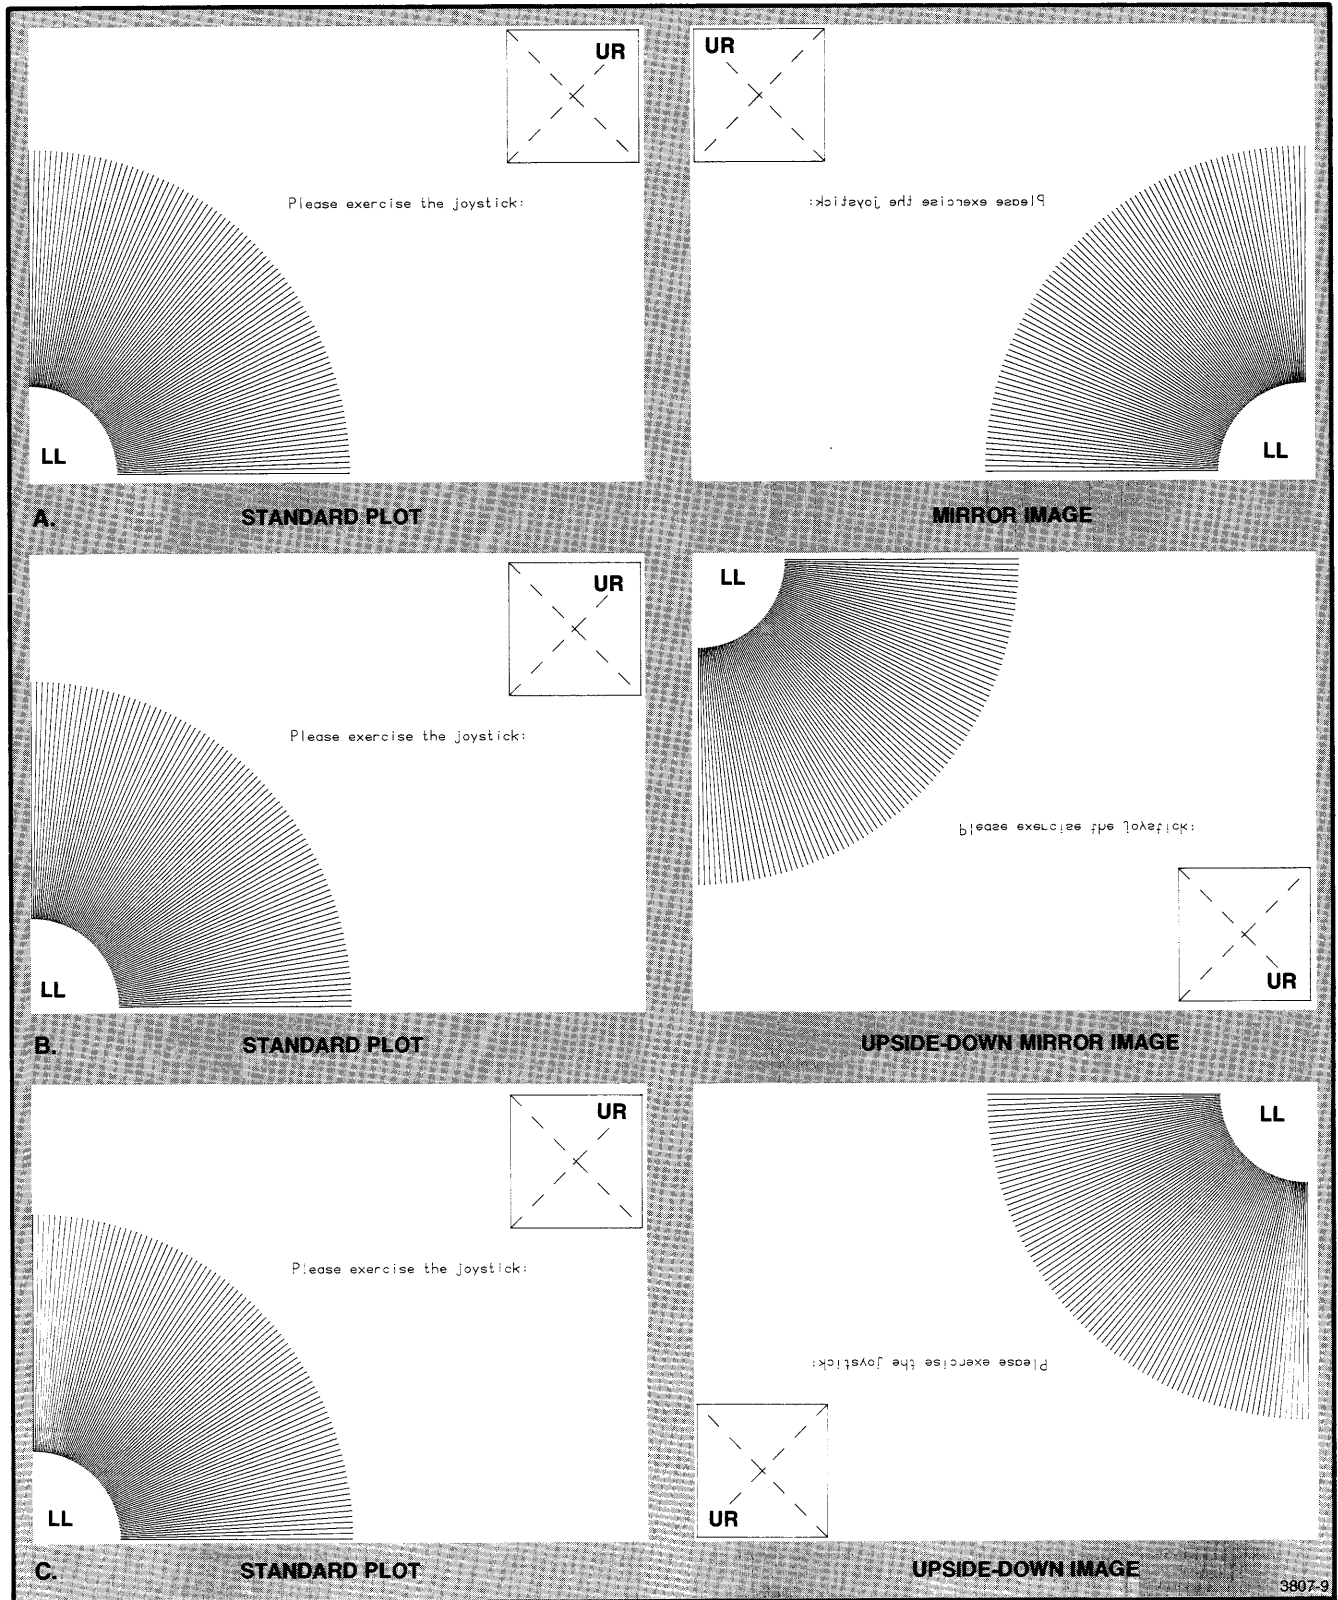

Figure 2-15. Mirror, Upside-Down Mirror, and Upside-Down Image Plots.
It is not hard to see that since the plotter allows us to place these two points anywhere on the plotting surface, the plotting area can take the shape of any size rectangle or square. It is even possible to position (1) the upper-right corner to the left of the lower-left corner to create mirror image plots, (2) the upper-right corner below the lower-left corner to create upside-down plots, and (3) the upper-left corner to the left of and below the lower-left corner to create upside-down mirror image plots (see Figure 2-15).
The plotter may be set to orient the plotting area to produce mirror, upside-down mirror, or upside-down image plots. Figure 2-15 shows an example of each of these features. Notice the placement of the lower-left (LL) and upper-right (UR) corners in the three plots as compared with the standard plot.